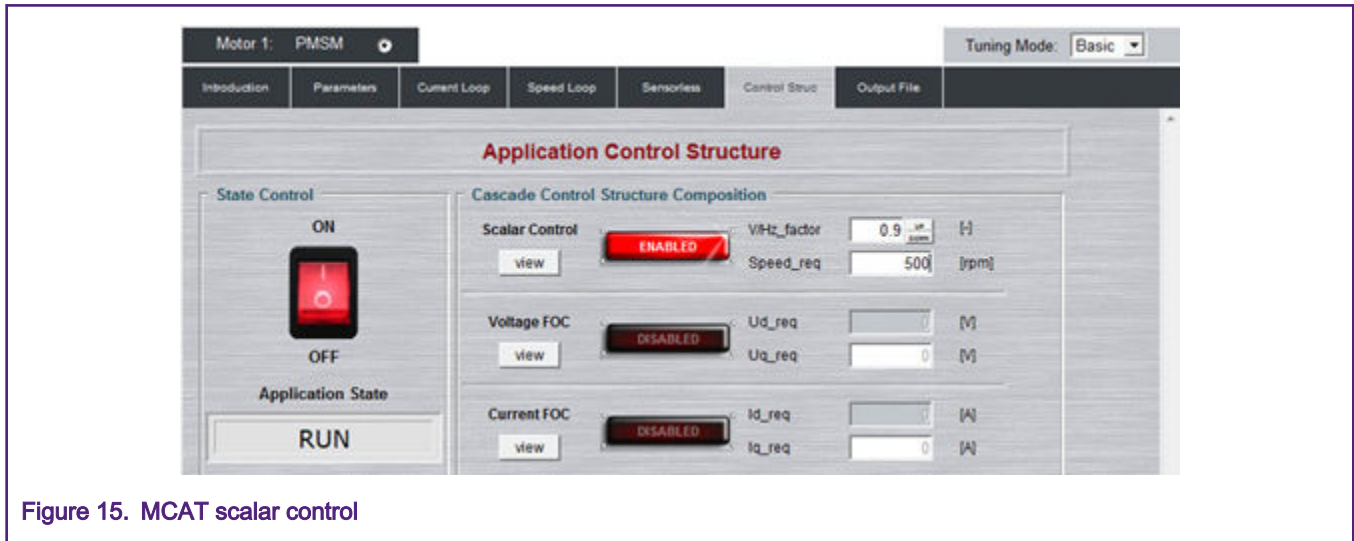

Figure 15. MCAT scalar control
- Set the required speed value in the "Speed\_req" field to 500 rpm in the "Scalar Control" section. The motor should start running, see Figure 15.